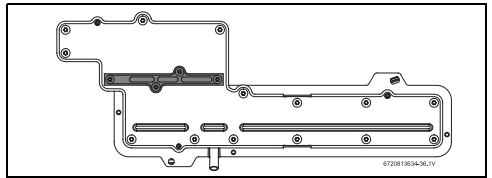

Fig. 48 Gas manifold
- ▶ Remove the four screws that retain the cover plate to the gas manifold, see fig. 48 (plate in grey color).